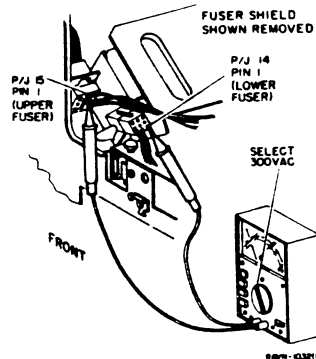

Figure 2. Measuring the Line Voltage
4. PREPARE TO MEASURE LOADED LINE VOLTAGE (FIGURE 2).